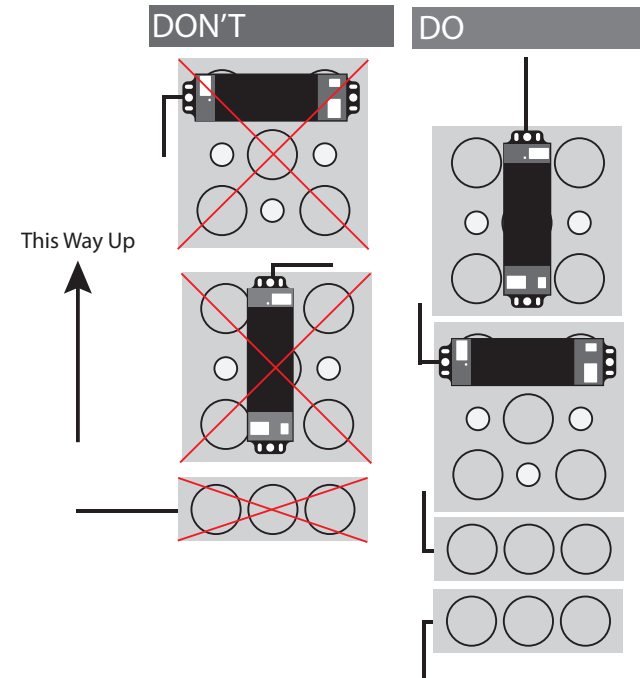

FIGURE 1 - ANTENNA ORIENTATION
Mounting Options: Mount in an LED Fixture or a Troffer. See figure 1 below for proper antenna orientation.
2. Place DIM10-100-00 in desired location and secure it using #8 screws or other appropriate methods. Prior to permanently mounting the DIM10-100-00, make sure the antenna points directly upward or downward and is free of any metal objects within 12 in. of the antenna. (Figure 1)